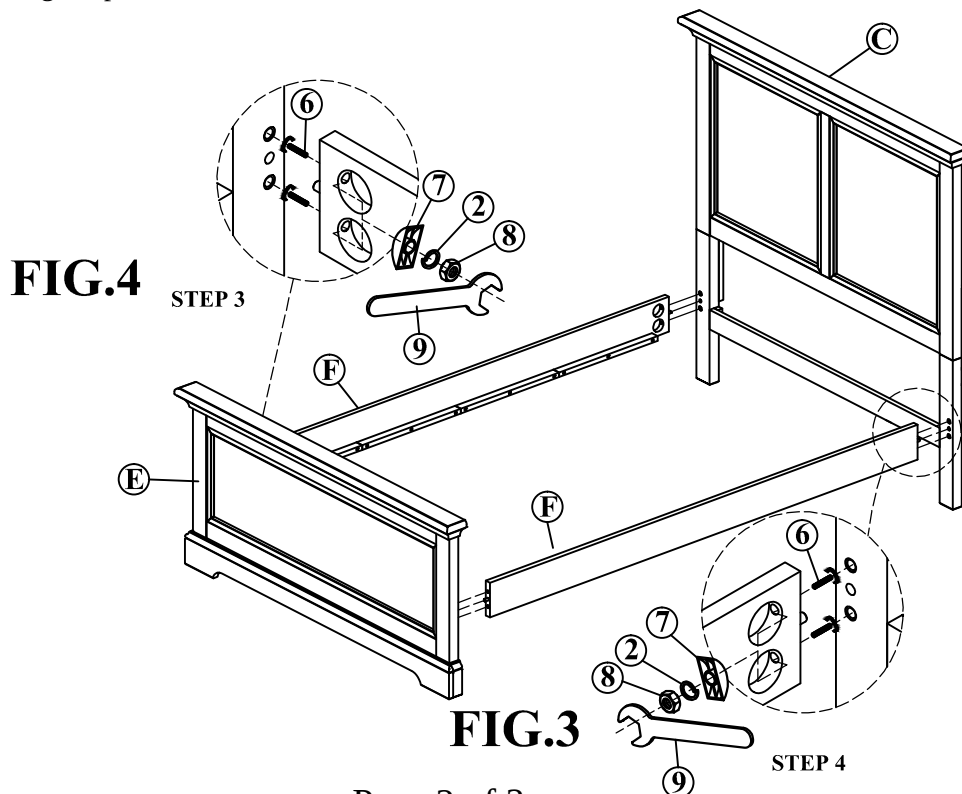

FIG.4
STEP 3: Attach both Bed Rails (F) to the Footboard (E) using the provided hardware as shown on FIG.4